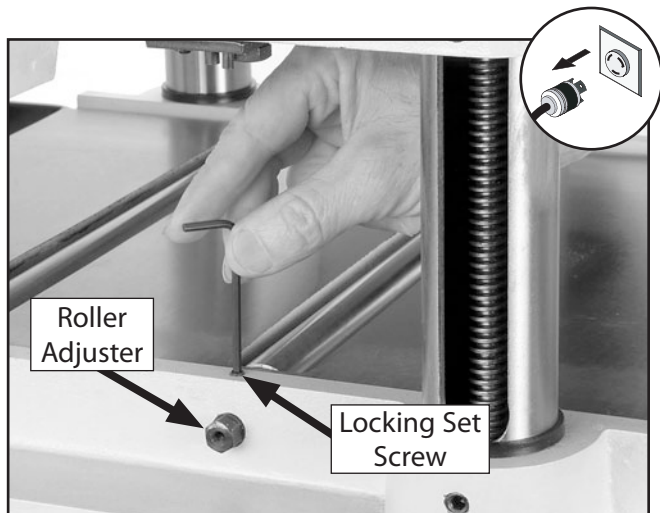

Figure 21. Bed roller controls (only one side shown).
2. Loosen the locking set screws (**Figure 21**) above the roller adjusters (4 total).